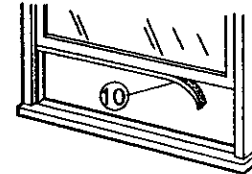

Figure 102
3. Cut the Foam-PE ⑩ to fit the underside of the window sash. Peel off the backing and attach the Foam-PE as shown in Figure 102.